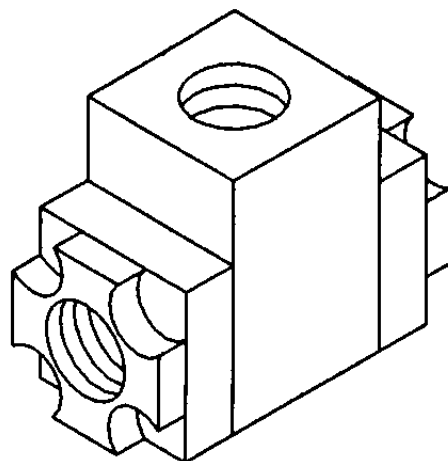

FIGURE 4–4 – SHUTTLE VALVE
Shuttle Valve – (FIGURE 4–4) Also known as a double check valve, the shuttle valve is a device which will take two (2) supply signals and allow the one with the highest pressure to pass through. The shuttle valve is used to provide control air pressure from either the
Blowdown Valve – (FIGURE 4–3) The blowdown valve is a two–way solenoid valve which is piped into the oil reservoir outlet but ahead of the check valve. When the solenoid is de–energized, the valve opens and the oil system is blown down. When the solenoid is energized, the valve closes to allow the oil system to pressurize. A control air check valve is provided to ensure that the inlet valve closes during blowdown.
Turn Valve Actuator – (FIGURE 4–5, page 24) The turn valve actuator is a rotary rack and pinion device which positions the turn valve according to system demand. Filtered oil from the compressor sump is directed to the outboard end of the two actuating cylin-